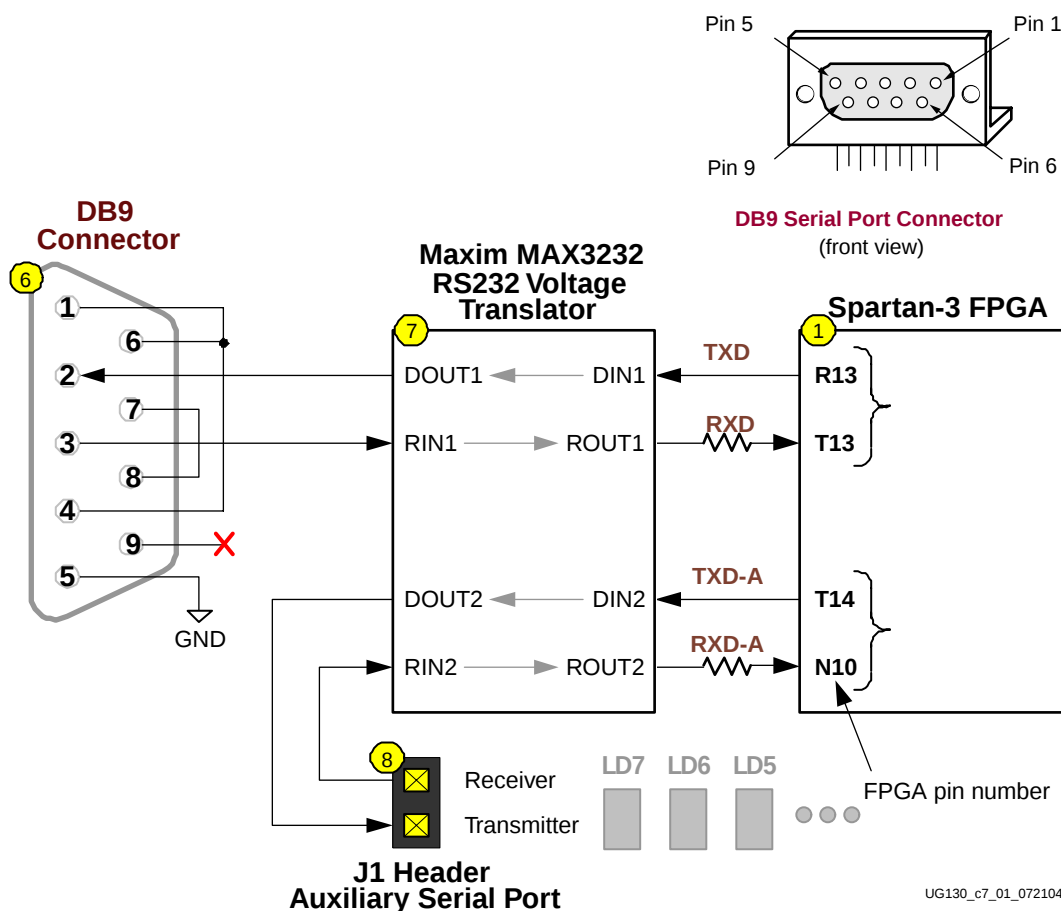

Figure 7-1: RS-232 Serial Port
Figure 7-1 shows the connection between the FPGA and the DB9 connector, including the Maxim MAX3232 RS-232 voltage converter, indicated as ⑦ in Figure 1-2. The FPGA supplies serial output data as LVTTTL or LVCMOS levels to the Maxim device, which in turn, converts the logic value to the appropriate RS-232 voltage level. Likewise, the Maxim
Hardware flow control is not supported on the connector. The port's DCD, DTR, and DSR signals connect together, as shown in Figure 7-1. Similarly, the port's RTS and CTS signals connect together.